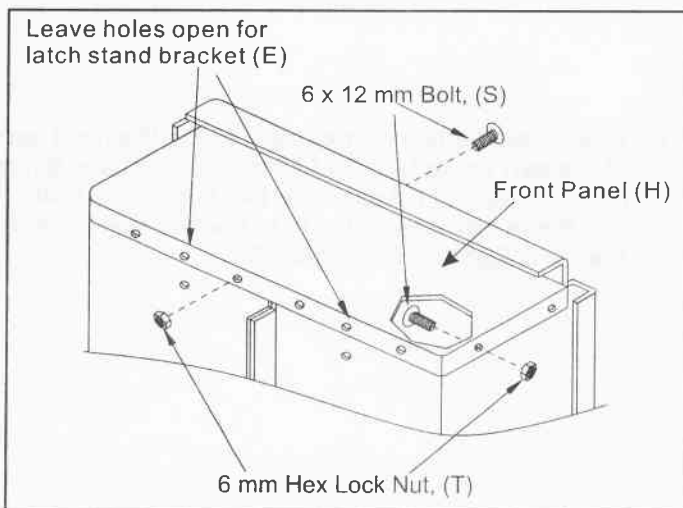

FIGURE 5
9. Assemble the front panel (H) over the end of the cart using eight 6 x 12 mm bolts (S) and 6mm hex lock nuts (T) as shown in figure 5. Leave two holes open in the bottom of the panel as shown in figure 5. With the cart body halves pulled together, tighten the four bolts in the bottom of the front panel, and then tighten the bolts in each side.